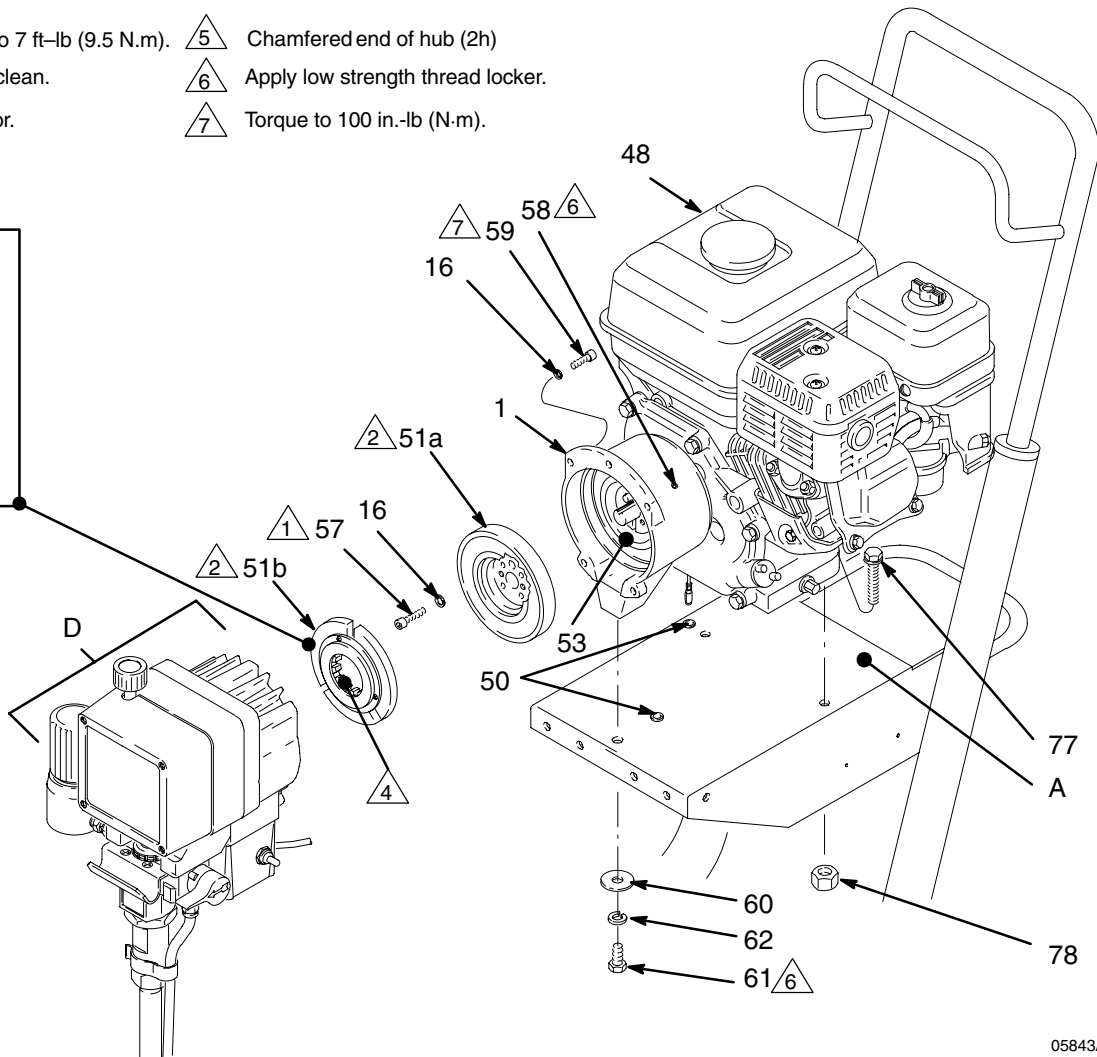

Fig. 7
1. Clean the face of the **armature (51b)**. With the flat side of the armature facing the rotor (51a), slide the armature onto the hub (2h) in the drive/pinion assembly (D) just until the chamfered end of the hub (2h) protrudes through the armature. See Detail B, Fig. 7. There will be significant resistance. Attach the cardboard spacer, supplied with the clutch kit, to the face of the armature. Engage the tabs on the spacer with the slots in the armature or bend tabs over outside diameter of armature.
2. Assemble the **drive assembly (D)** to the clutch housing (1), using the capscrews (59) and lockwashers (16). See Fig. 7.